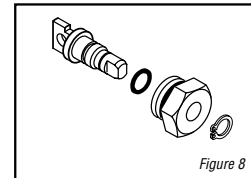

Figure 8
**7** The internal seal may be replaced by first removing the small retaining ring on the end of the bypass valve. Remove and replace the o-rings (see Figure 8).